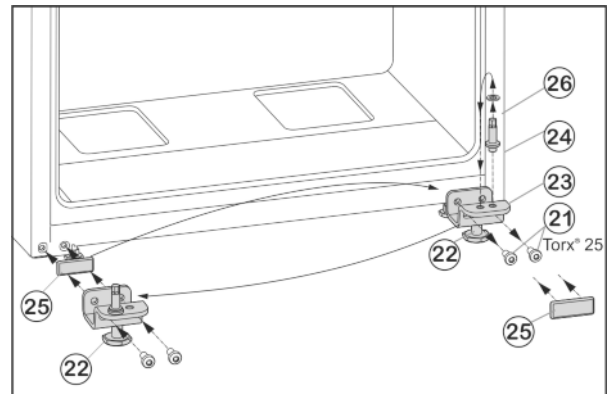

Fig. 7
- ▶ Unscrew fastening screws Fig. 7 (21).
- ▶ Remove the lower bearing block Fig. 7 (23), complete with bearing bolt Fig. 7 (24), washer Fig. 7 (26) and adjustable foot Fig. 7 (22).
- ▶ Unscrew the bearing bolt Fig. 7 (24), complete with washer Fig. 7 (26), re-locate it into the mounting hole on the opposite side of the bearing block and tighten again.
- ▶ Carefully remove the cover plate Fig. 7 (25) and re-locate it to the other side.
- ▶ Fasten the lower bearing block Fig. 7 (23), complete with bearing bolt Fig. 7 (24), washer Fig. 7 (26) and adjustable foot Fig. 7 (22) to the new hinge side, with the help of a cordless screwdriver if necessary, and **tighten (with 4 Nm)** once again.
- ▶ Lower the bottom door onto the bearing bolt Fig. 7 (24).
- ▶ Unscrew the adjustable foot *Fig. 7 (22)* on the lower bearing block *Fig. 7 (23)* until it reaches the floor.